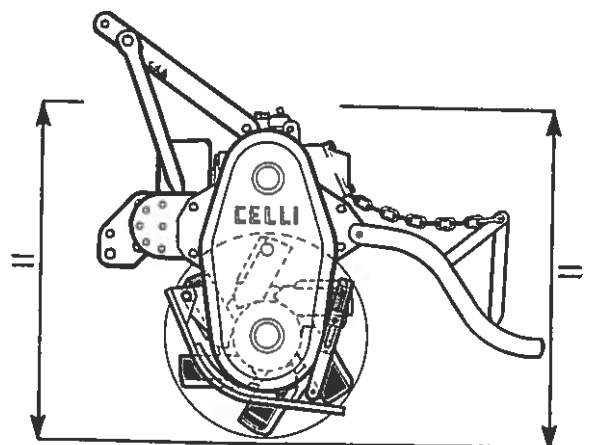

FIG. 2
- REGOLARE LA POSIZIONE DEL TELAIO DELLA FRESATRICE IN MODO CHE SIA ORIZZONTALE.(FIG. 2)
- ADJUST FRAME IN HORIZONTAL POSITION.(FIG. 2)
- REGLER LA POSITION DU BATI DE LA MACHINE DE FACON QU'IL SOIT HORIZONTAL. (FIG. 2)
- AUSRICHTEN DER MASCHINE (FIG. 2)
- REGULAR HORIZONTALMENTE LA POSICION DEL CHASIS DEL ROTOCULTOR. (FIG. 2)